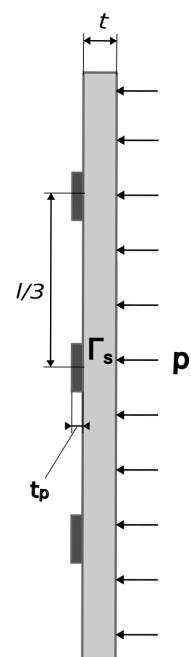

Figure 2: Side view
- Test the model in static analysis by applying a pressure of magnitude $p = 1000 \text{ N/m}^2$ on the back of the plate as shown in figure 2. **(1 point)**